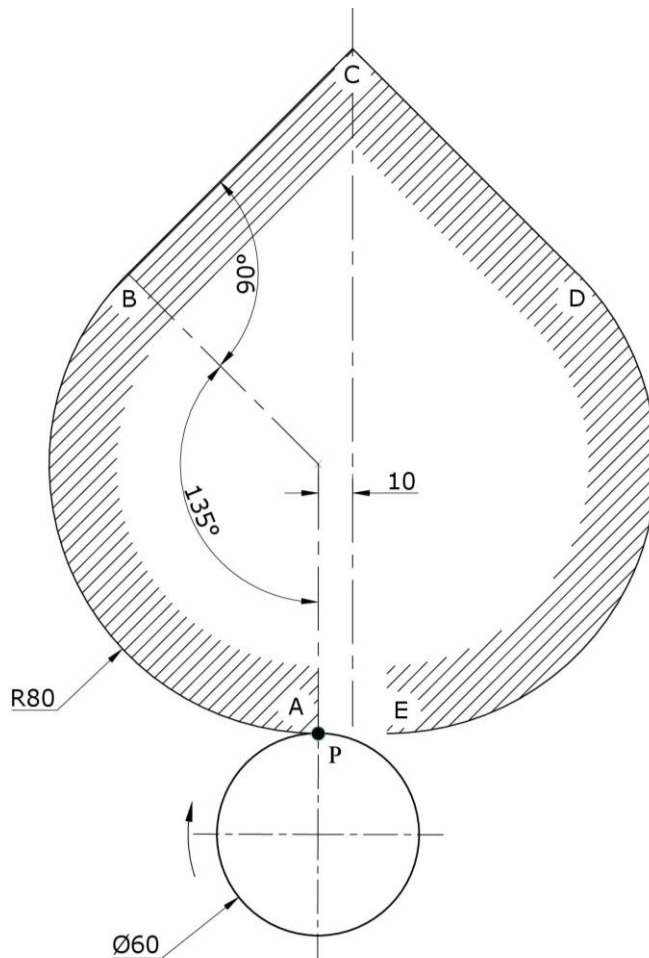

Figure 5b
A logo of an environment friendly company is illustrated in Figure 5a. The profile of the leaf is produced by means of a  $\text{Ø}60$  generating circle, rolling without slipping, outside the given directing shape. The symmetrical directing profile consists of arcs and straight lines as shown in Figure 5b.
- copy the drawing shown in Figure 5b; (2)
- plot the locus of P as the circle rolls on arc AB; (6)
- plot the locus of P as the circle continues to roll on straight-line BC; (4)
- plot the locus of P as it swings on corner C; (1)
- write the technical names of the three generated curves; (3)
- reflect the curves CD and DE. (4)